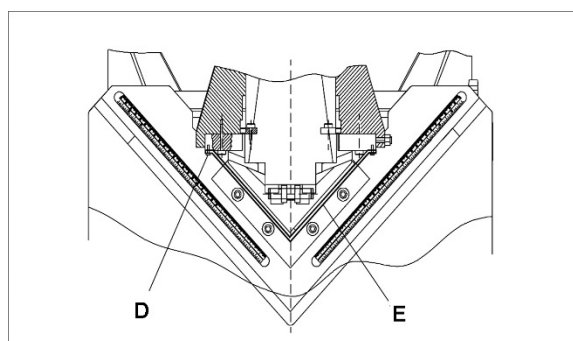

Figure 8-1
5. Remove screws (D, Figure 8-1) and head guard (E).